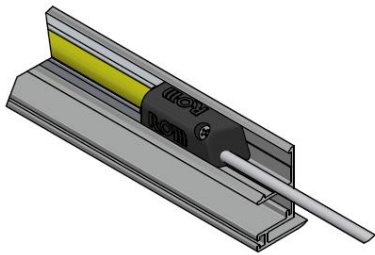
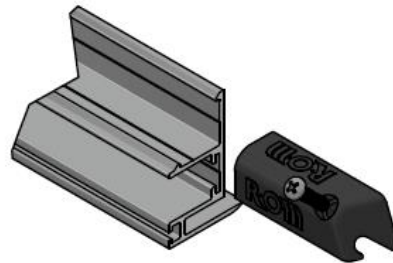

Fig. 1
Fig. 1a
1. Remove the start cap assembly from the aluminum extrusion by loosening the 8-32 screw. (See Fig. 1 for layout of parts and Fig. 1a for removed).